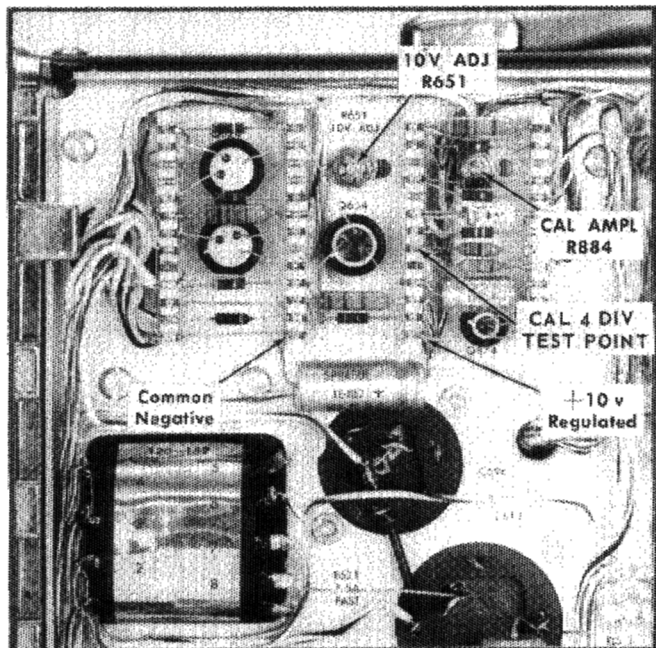

FIG. 6-1. Test point and adjustment locations for preforming steps 1 and 3 (upper left side view).
- Connect a dc voltmeter across the 10-volt regulated supply at the points shown in Fig. 6-1.
- Adjust the 10V ADJ R651 control (see Fig. 6-1) for a reading of exactly 10 volts. Use a voltmeter known to be accurate.
- Adjust the CAL AMPL R884 control (see Fig. 6-1) for exactly 500 mv peak-to-peak vertical deflection of
- d. Connect the 1X probe to the CAL 4 DIV test point shown in Fig. 6-1. Adjust the test oscilloscope for stable display at a vertical deflection factor of 10 mv/cm. The amplitude at this point should be 40 mv, $\pm 3\%$.